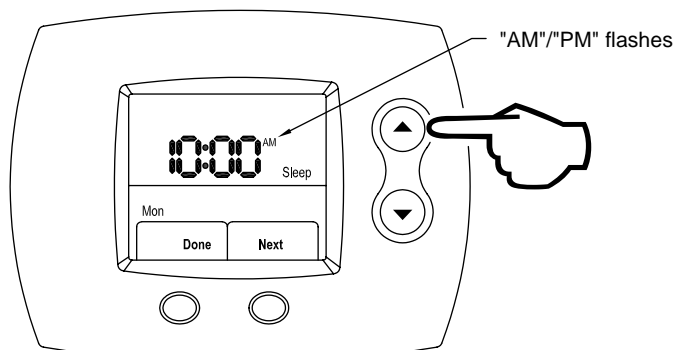

Figure 98
Step 24: Next, using the **UP** (index AM / PM) or **DOWN** (index AM / PM) buttons, select AM / PM, as shown in Figure 98.